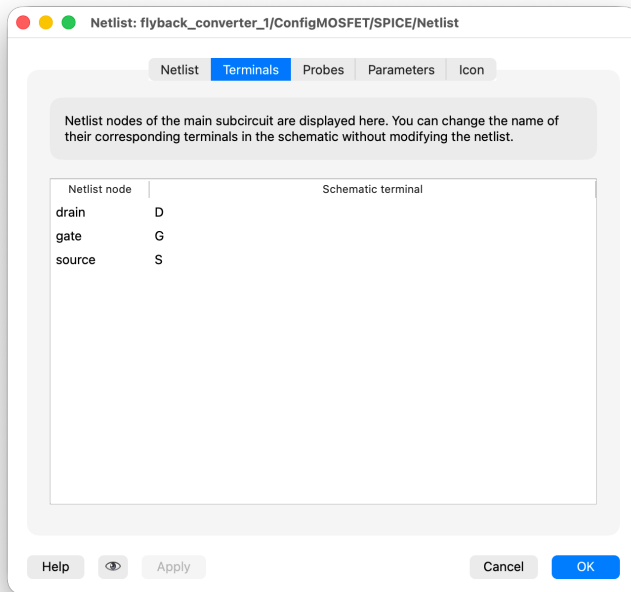

Figure 6: Netlist terminals tab
- 9** From the **Terminals** tab of the netlist window, it is possible to assign custom names to each schematic terminal. You can assign the custom terminal names *D*, *G*, and *S* to the netlist nodes *drain*, *gate*, and *source*, respectively, as shown in Fig. 6.